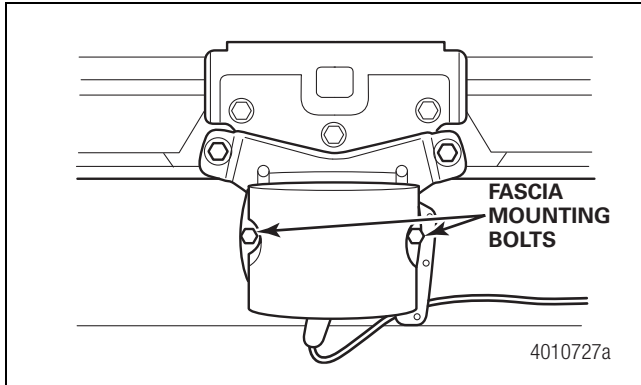

Figure 1
- Remove the two fascia mounting bolts and remove the fascia from the radar sensor. Figure 1.